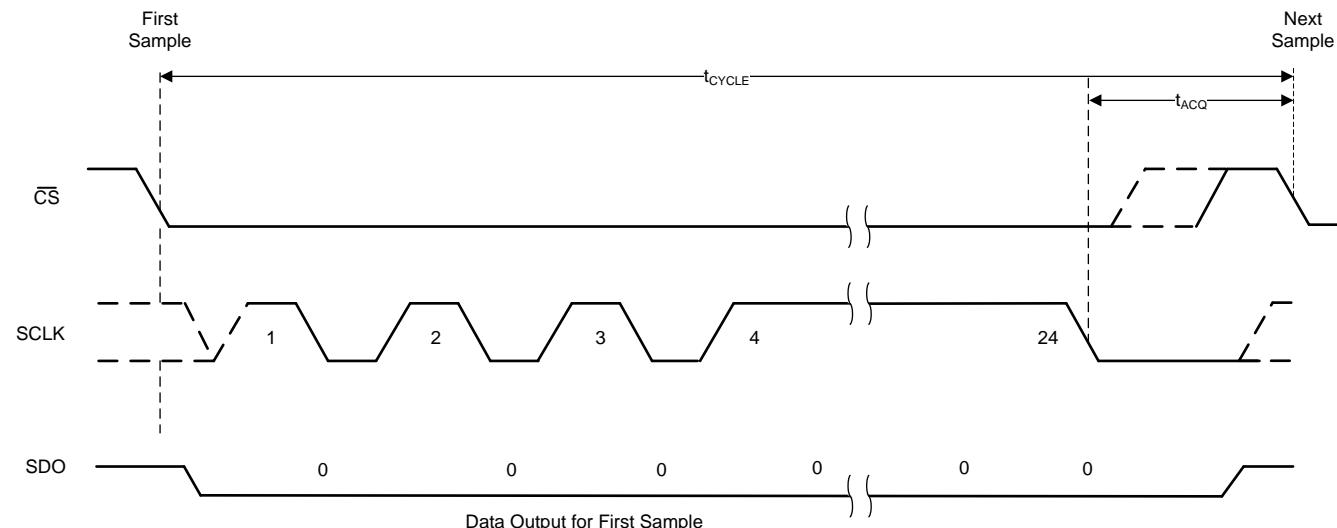
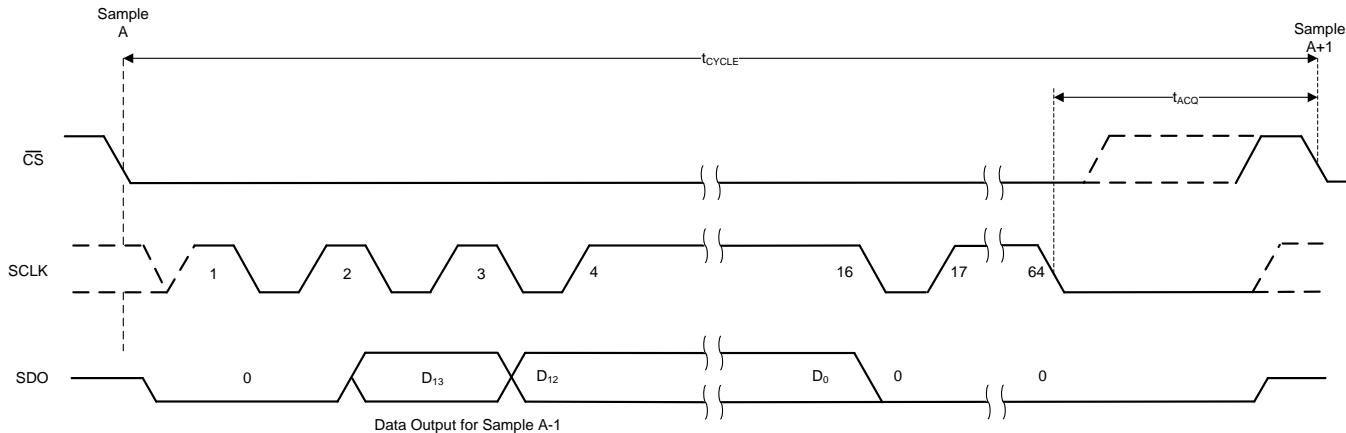

Figure 38. Timing for Offset Calibration on Power-Up
Figure 39. Timing for Offset Calibration During Normal Operation
The host controller must provide a serial transfer frame as described in Figure 38 or in Figure 39 to enter the OFFCAL state.
If the host controller starts the offset calibration process but then pulls the \overline{CS} pin high before providing 24 SCLKs, then the offset calibration process is aborted and the device enters the ACQ state. Figure 38 and Table 3 provide the timing for offset calibration on power-up.
- (1) In addition to the timing specifications of Figure 38 and Table 3, the timing specifications described in Figure 2 and the Timing Requirements table are also applicable for offset calibration on power-up.
If the host controller provides more than 18 SCLKs but pulls the \overline{CS} high before providing 64 SCLKs, then the offset calibration process is aborted and the device enters the ACQ state. Figure 39 and Table 4 provide the timing for offset calibration during normal operation.
- (1) In addition to the timing specifications of Figure 39 and Table 4, the timing specifications described in Figure 2 and the Timing Requirements table are also applicable for offset calibration during normal operation.